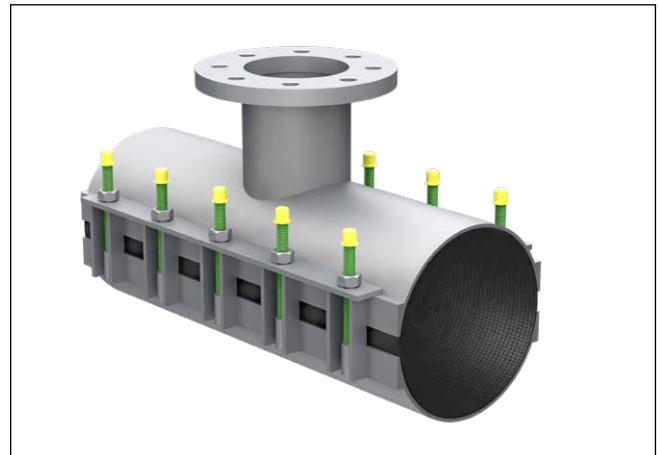

Fig. 71: Tapping clamp
13.9. On-site pipeline connection for pressure pipelines (see Fig. 71)